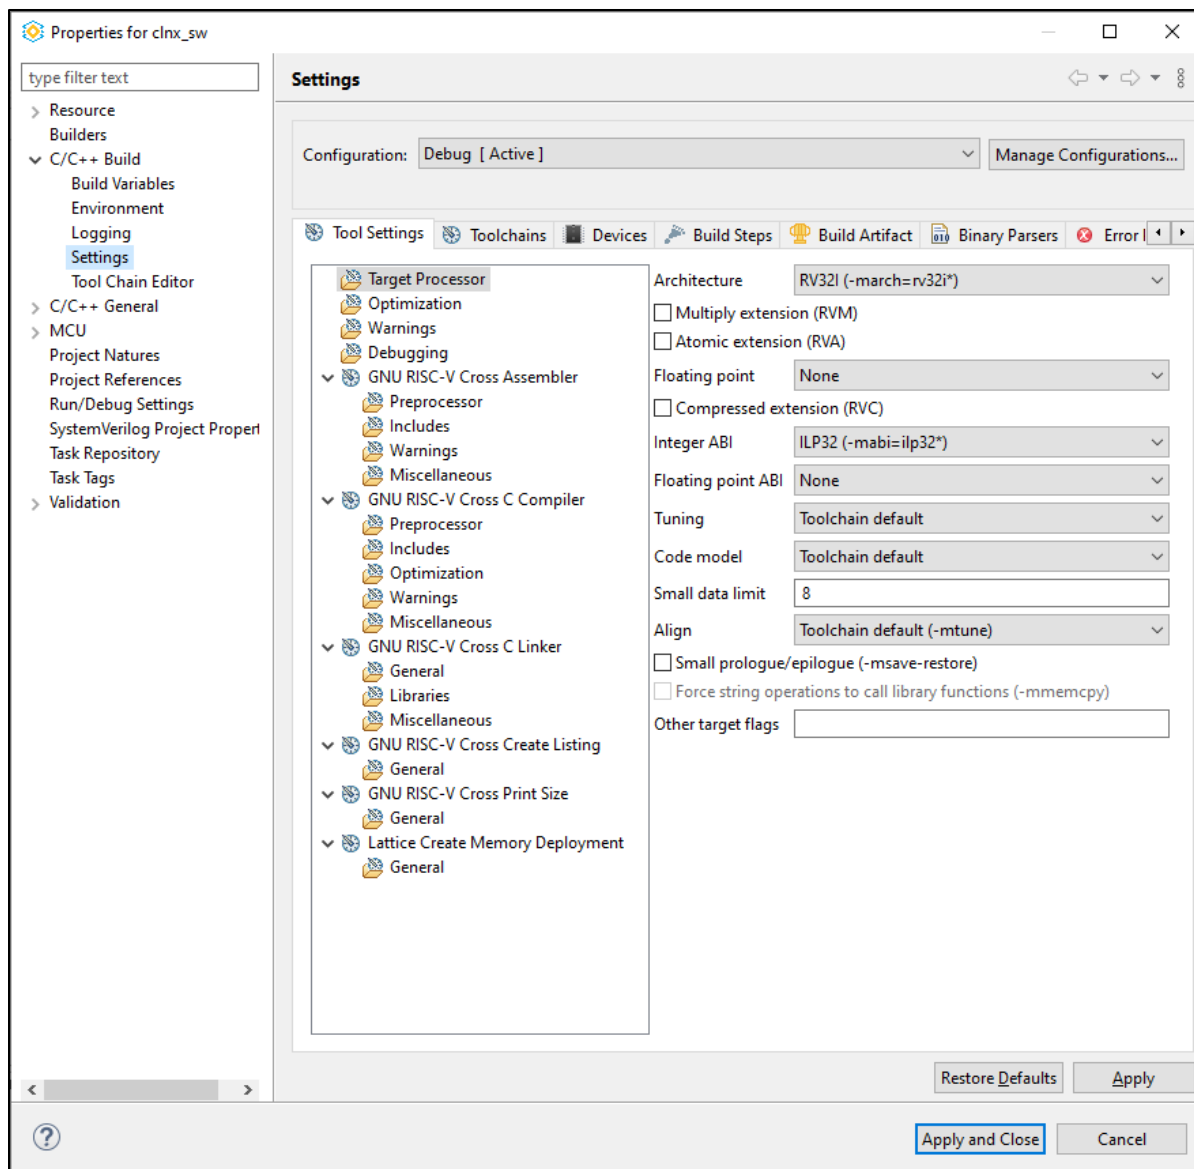

Figure 5.8. Project Settings Page
**Important:** The user can also modify the toolchain and compilation settings. To do this, select *Project > Properties* in the Propel SDK menu bar. This opens the project Properties window, as shown in Figure 5.8. From this window, modify the toolchain and compilation settings by selecting the various tabs under the C/C++ Build dropdown options.